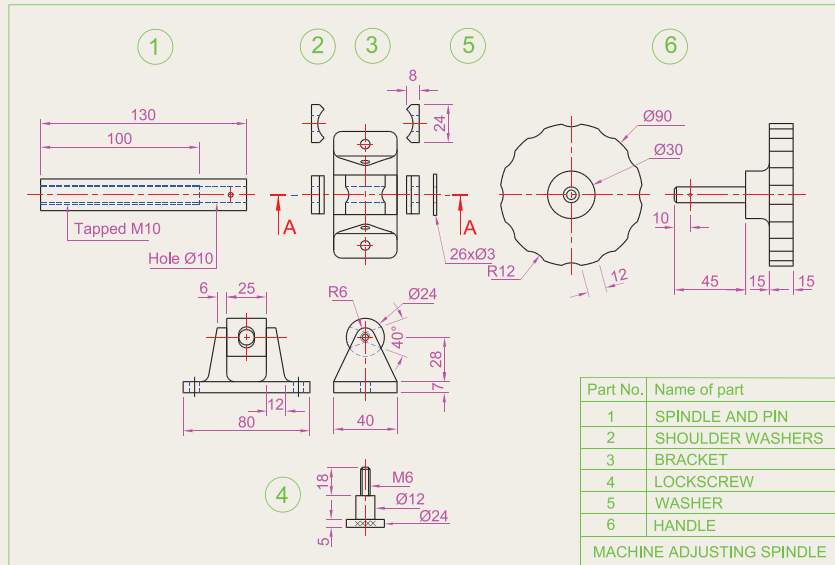

Fig. 11.18 Exercise 2
2. Construct a similar sheet set as in the answer to Exercise 1 from the exploded orthographic drawing of a **Machine adjusting spindle** given in Fig. 11.18.